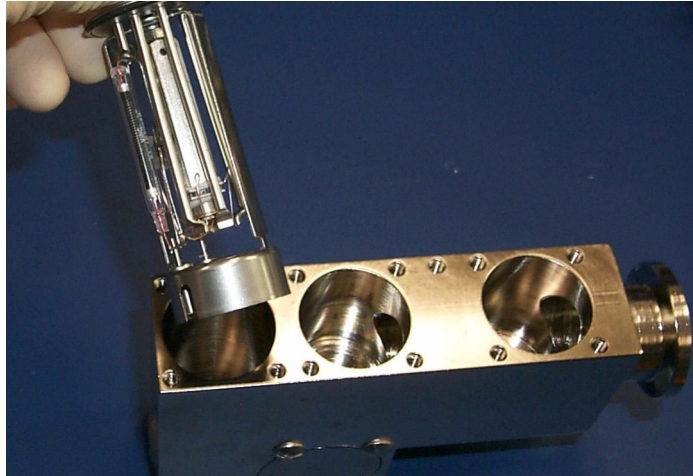

Figure 5-15 Removing the Preamplifier
19. Remove the four (4) Phillips-head screws that hold the preamplifier header piece, repeating steps 11 and 12 to release the preamplifier.
20. Carefully remove the preamplifier from the spectrometer tube body (Figure 5-15) and place it carefully on a clean, safe, non-magnetic surface.